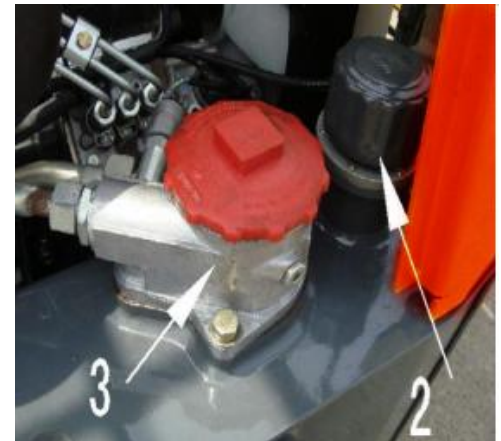

Fig. C-45
1. To check the hydraulic oil level, loosen the cap (Fig. C- 45/2) by one turn and close again immediately (pressure escapes).
2. Screw out the oil level gauge (Fig. C- 45/1).
4. If the oil level is low, loosen the purge filter (Fig. C- 45/2) and replenish the hydraulic oil through the opening until the oil level has reached the marks. Screw in the purge filter again.
The hydraulic system is equipped with one return filter (Fig. C- 45/3). An incorporated by-pass valve protects the return filter from excess pressure.